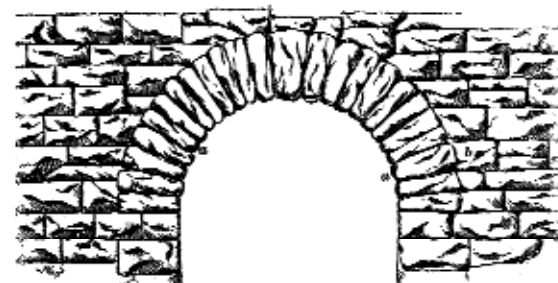

FIG. 58.
**103. Rubble Arches.**—For rough purposes, arches are sometimes built of rubble, as shown in Fig. 58, in which *b* represents the wall carried by the rubble arch, the ring stones of which, as *a*, should be narrow and roughly dressed